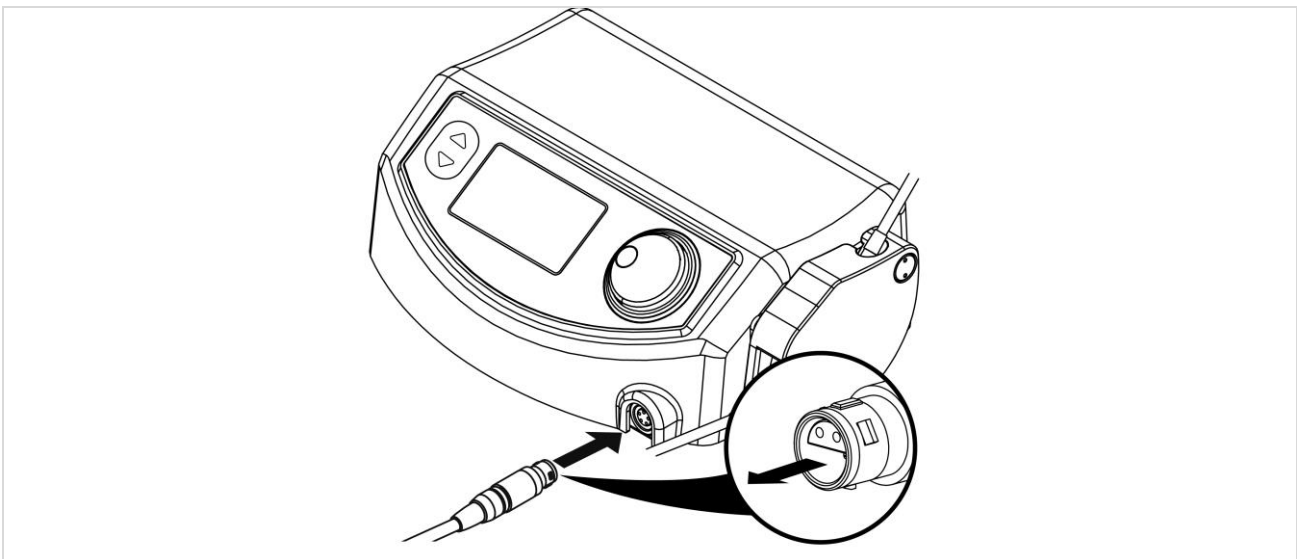

Fig.2-5
- Insert and slide the rod into the slot (1).
- Tighten the rod with the screw (2).
3. Connect the iM3 OP1 hand piece cord to the cord connector on the device (Fig.2-5).